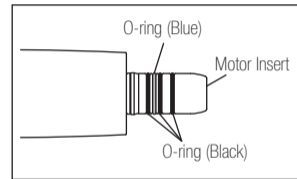

Fig. 8
- The blue O-Ring is thinner than the 3 black O-Rings. When inserting new O-rings, make sure they are inserted in the correct grooves as shown in the Fig. 8.